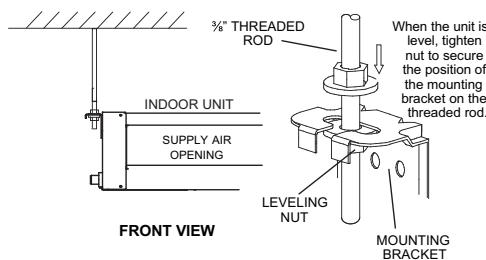

Fig. 9 — Threaded Rod
- Secure the unit in position with locknuts and washers on both sides of the mounting bracket. Ensure that the threaded rod does not protrude more than two inches below the mounting brackets as shown in Fig. 9.